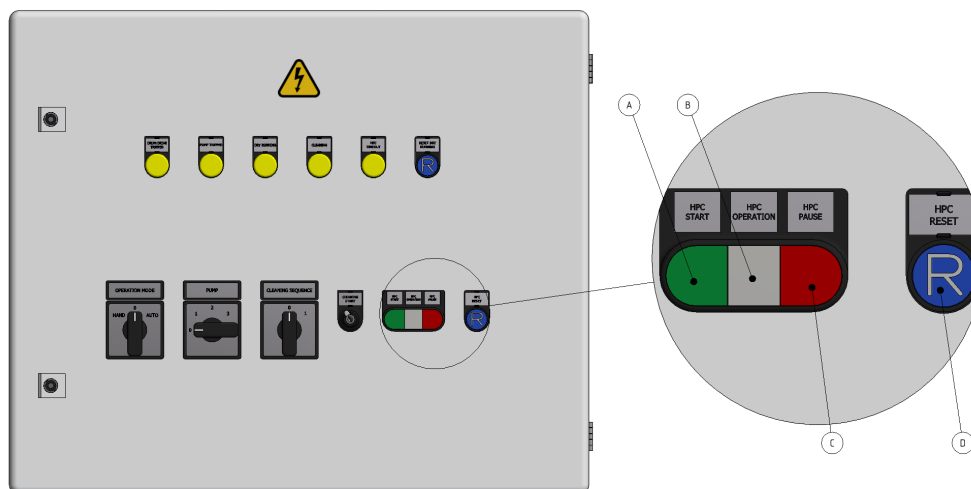

Figure 6.2.1 Control cabinet, filter with integrated HPC.
If the filter is HPC equipped, a control cabinet like the one in figure 6.2.1 below is used.
1. Turn the operating mode switch to AUTO mode (see figure 6.2.1)